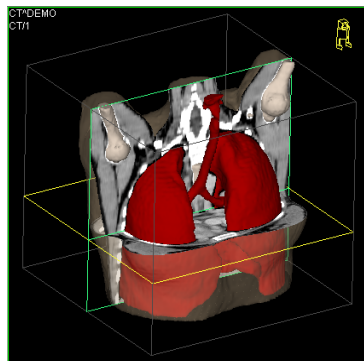

Figure 317 – 3D view
- To display ROIs in 3D view (see Figure 317), click the **3D** button.